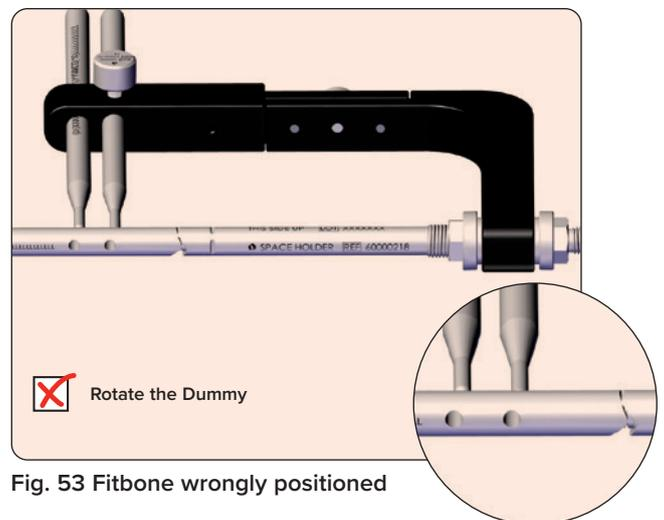

Fig. 53 Fitbone wrongly positioned
3. The Fitbone is wrongly placed. **(Fig. 53)**